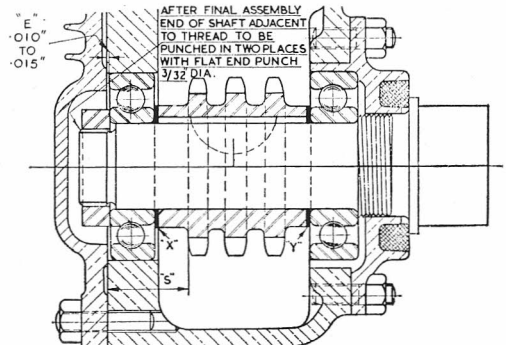

Fig. 44. Dynamo Driving Sprocket Assembly
67. DYNAMO DRIVE SPROCKET. When a replacement dynamo sprocket is fitted it must be the same size as the one originally supplied for the particular dynamo. See preceding table on page 80 and paragraph 33, page 116. Alignment of the dynamo sprocket is obtained by the use of shims interposed between the sprocket and the inner races of the front and rear ball bearings as indicated at "X" and "Y" in Fig. 44.